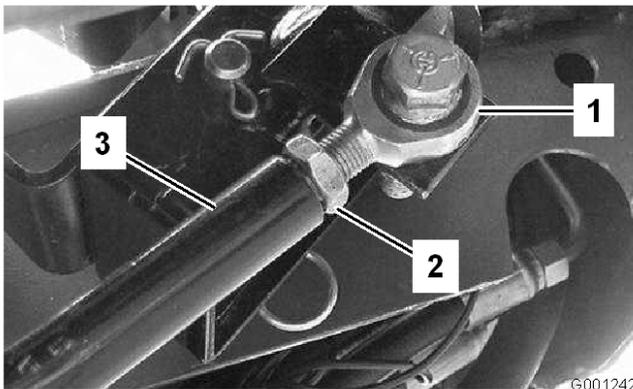

Figure 68
3. If more adjustment is required, adjust traction rod (Figure 68) as follows: